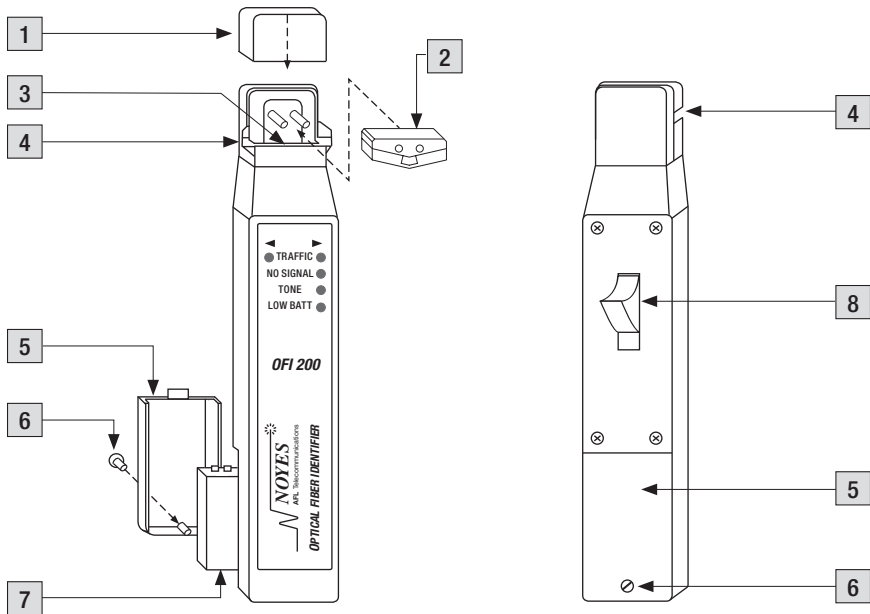

Figure 2-1: OFI 200 Assembly
Figure 2-1 illustrates the OFI 200 assembly parts listed below.
- 6 Gently insert the fiber being tested into the fiber groove at the top of the OFI 200 head (refer to Figure 2-1).